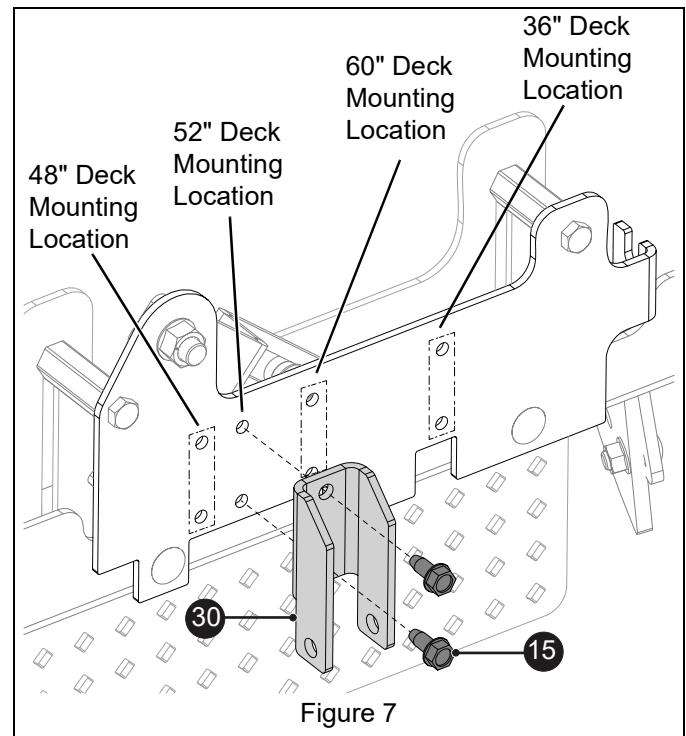

Figure 7
9. Position mounting bracket (item 30) on back of chute control assembly and retain with two hex washer head tapping screws (item 15). The mounting location varies depending on deck size. See Figure 7 for correct mounting location.